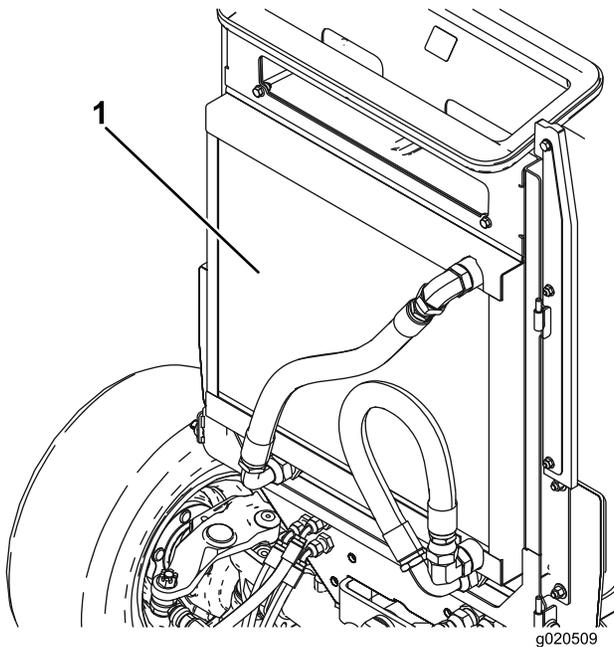

Figure 92
3. Thoroughly clean both sides of the oil cooler and the radiator with compressed air (Figure 92).